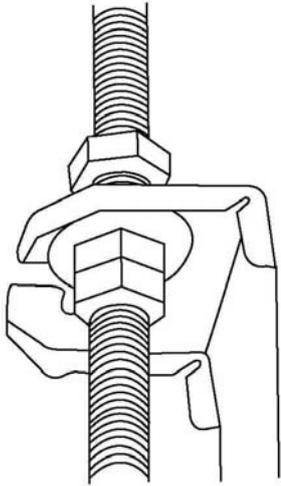

Fig. 4.5
5. Mount the indoor unit. Use lifting equipment to lift the indoor unit in place. Insert suspension bolts into the unit's hanging holes. Fasten them using the included washers and nuts (See Fig. 4.5).